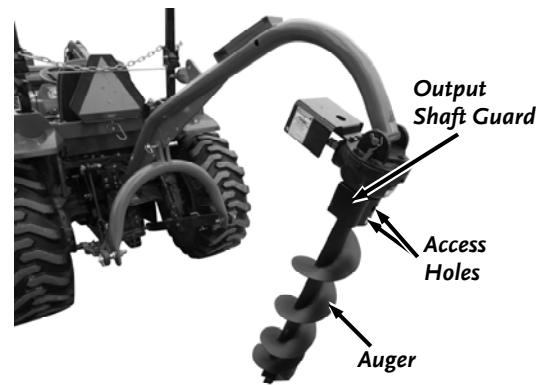

Figure 10
7. Raise the Boom by raising the Lift Arms on your Tractor. Position the Auger onto the Output Shaft of the Gearbox (**Figure 10**).